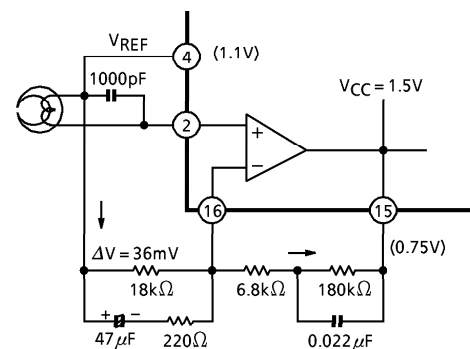

Fig. 4 NFB terminal
The resistance of 18kΩ is advisable to be connected between NFB terminal (Pin⑯ and ⑩) and VREF for using this IC. That is because NFB terminal is designed to have the off-set voltage (ΔV = 36mV) against each terminal (Pin ②, ③, ⑤ and ⑥). Therefore, the DC potential of the output terminals (Pin⑮ and ⑪) can be set at about VCC/2 with the current produced by this off-set potential. (Fig.4)